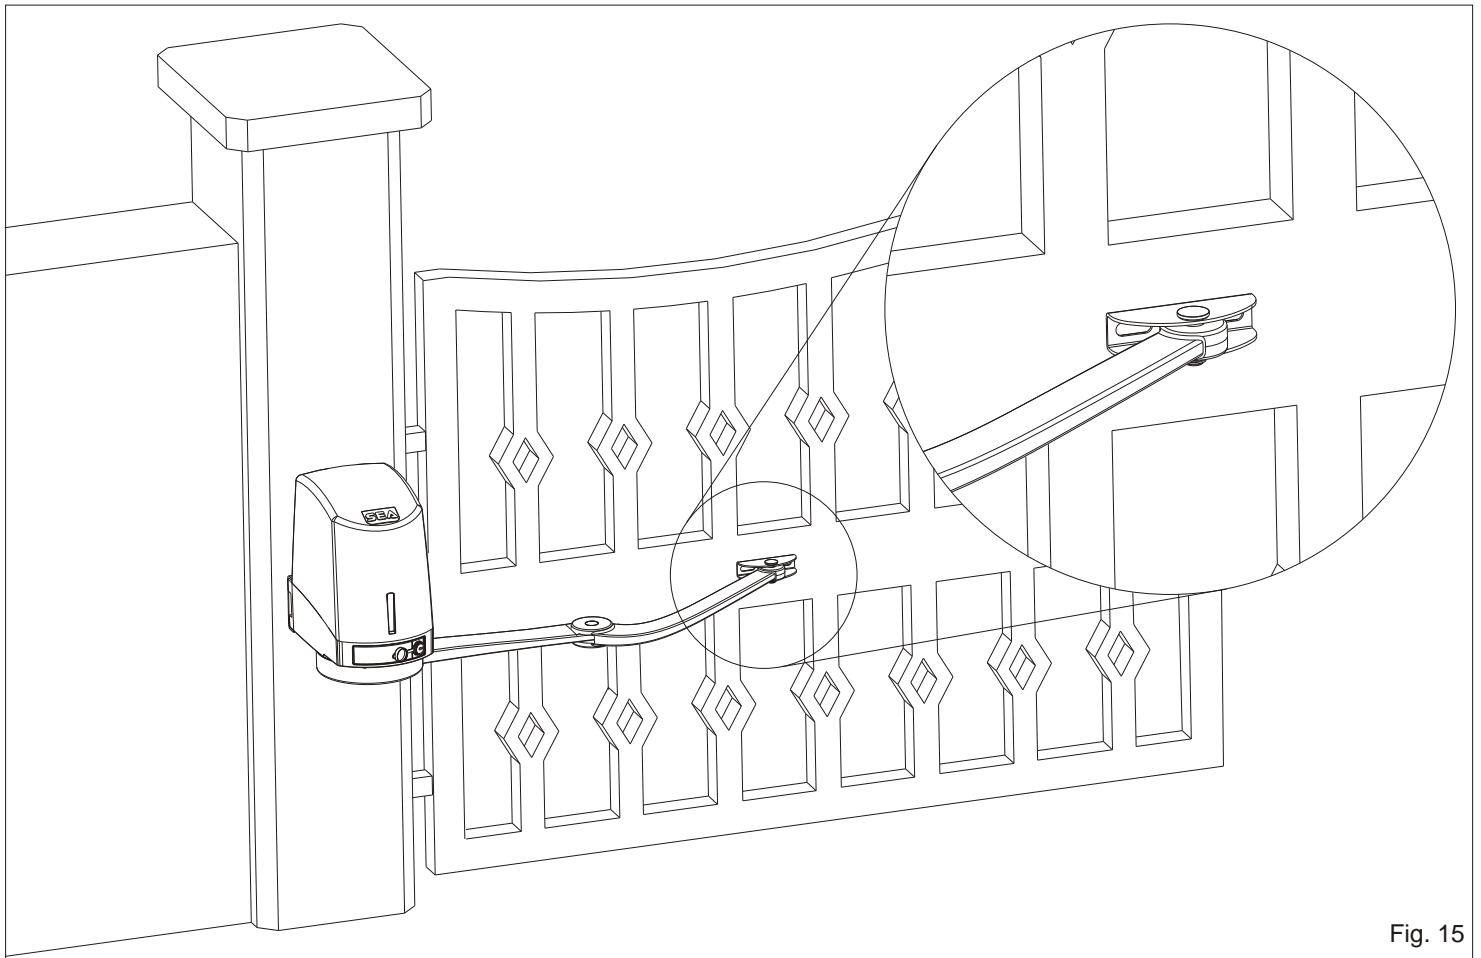

Fig. 15
- Extend the articulated arm (Fig. 8), lean the adjustable front bracket on the gate and make two marks on the center of the two holes (Fig. 15) respecting the measures in Fig. 8.